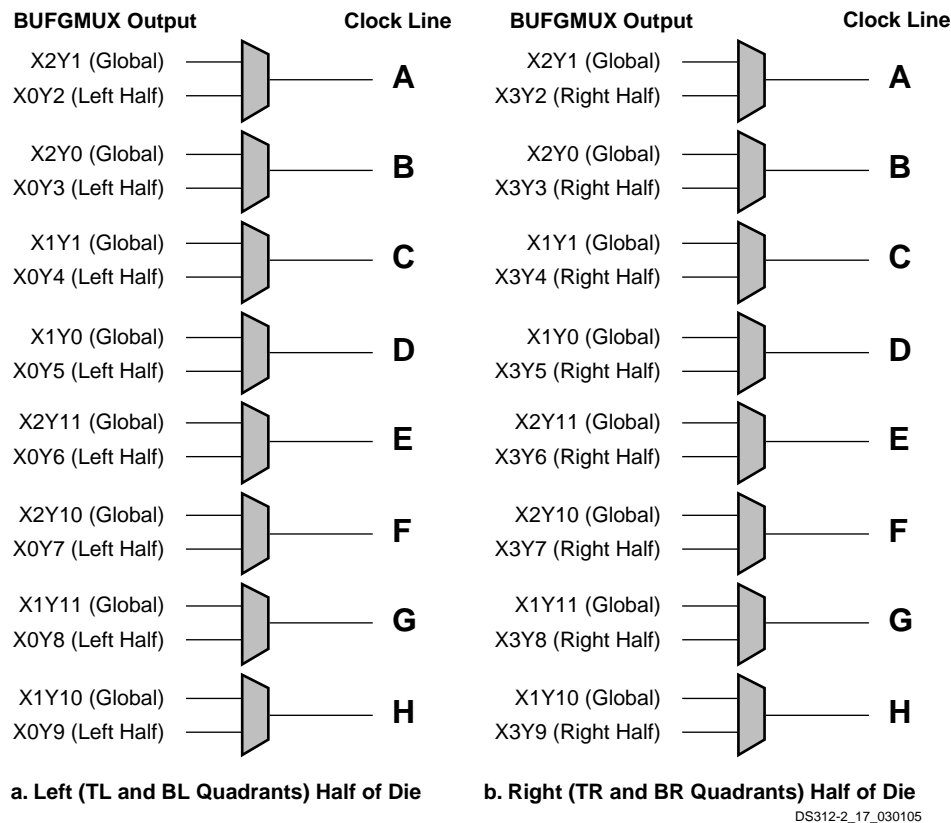

Figure 44: Clock Sources for the Eight Clock Lines within a Clock Quadrant
2. See **Figure 42** for specific BUFGMUX locations and **Figure 44** for information on how BUFGMUX elements drive onto a specific clock line within a quadrant.
The clock routing within the FPGA is quadrant-based, as shown in Figure 42. Each clock quadrant supports eight total clock signals, labeled 'A' through 'H' in Table 36 and Figure 44. The clock source for an individual clock line originates either from a global BUFGMUX element along the top and bottom edges or from a BUFGMUX element along the associated edge, as shown in Figure 44. The clock lines feed the synchronous resource elements (CLBs, IOBs, block RAM, multipliers, and DCMs) within the quadrant.
in a single clock quadrant. Figure 44 shows how the clock lines in each quadrant are selected from associated BUFGMUX sources. For example, if quadrant clock 'A' in the bottom left (BL) quadrant originates from BUFGMUX\_X2Y1, then the clock signal from BUFGMUX\_X0Y2 is unavailable in the bottom left quadrant. However, the top left (TL) quadrant clock 'A' can still solely use the output from either BUFGMUX\_X2Y1 or BUFGMUX\_X0Y2 as the source.